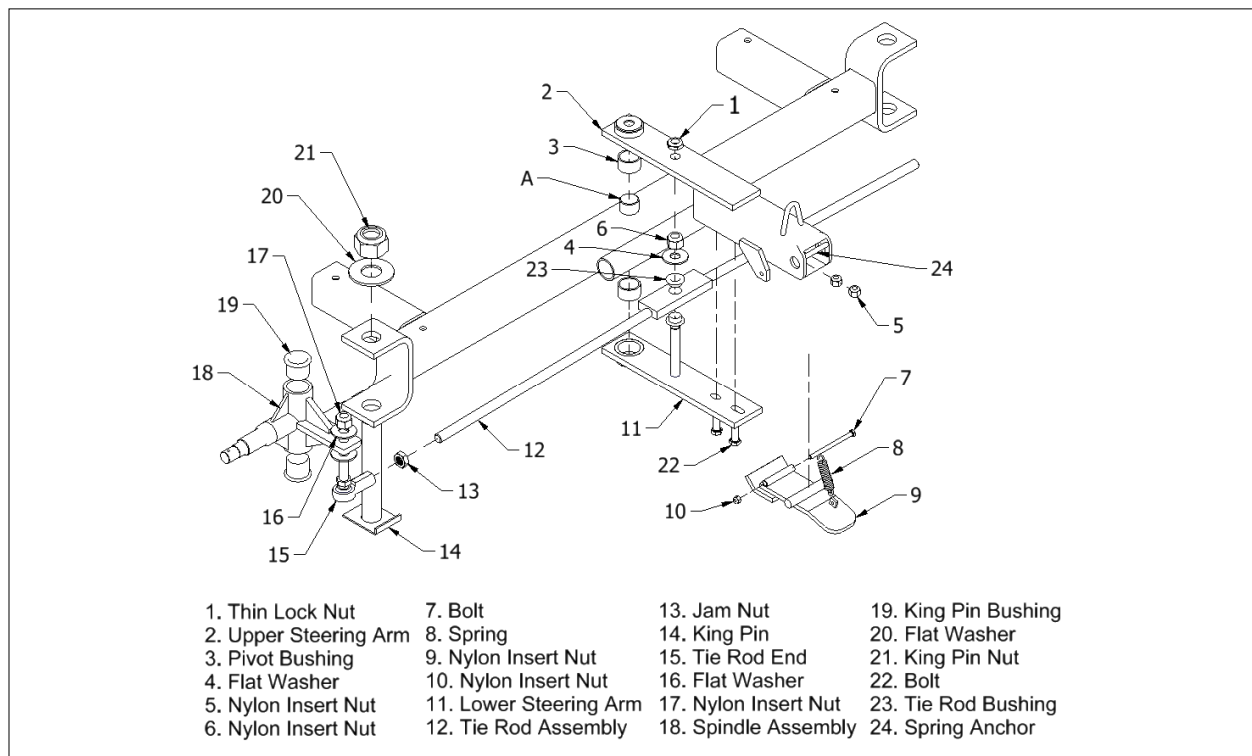

Figure 4-5 Exploded View of Undercarriage
(The remaining steps are illustrated in Figure 4-5) .
To remove the spindle assembly, follow the maintenance steps for the front hub assembly before beginning the next steps. See Figure 4-5.
- a. Remove the thin lock nut (1).
- b. Remove nuts (17) and flat washers (16).
- c. Remove bolts (22) and nuts (5). Allow lower steering arm subassembly (11), bushing (3), and tie rod assembly (12) to drop down; place to the side.
- d. Lift upper steering arm subassembly vertically to clear pivot pin (reference arrow (A)), then pull to clear tank and front axle tube.
- e. Remove tie rod assembly (12) by removing nut (6) and flat washer (4). Note the presence of the bushings (23).
Refer to Figure 4-5 for the removal of the tie rod. Before beginning this process make sure that you have followed the steps for the steering arm assembly. **Note presence and location of bushings (23) when removing tie rod assembly from steering arm assembly.**